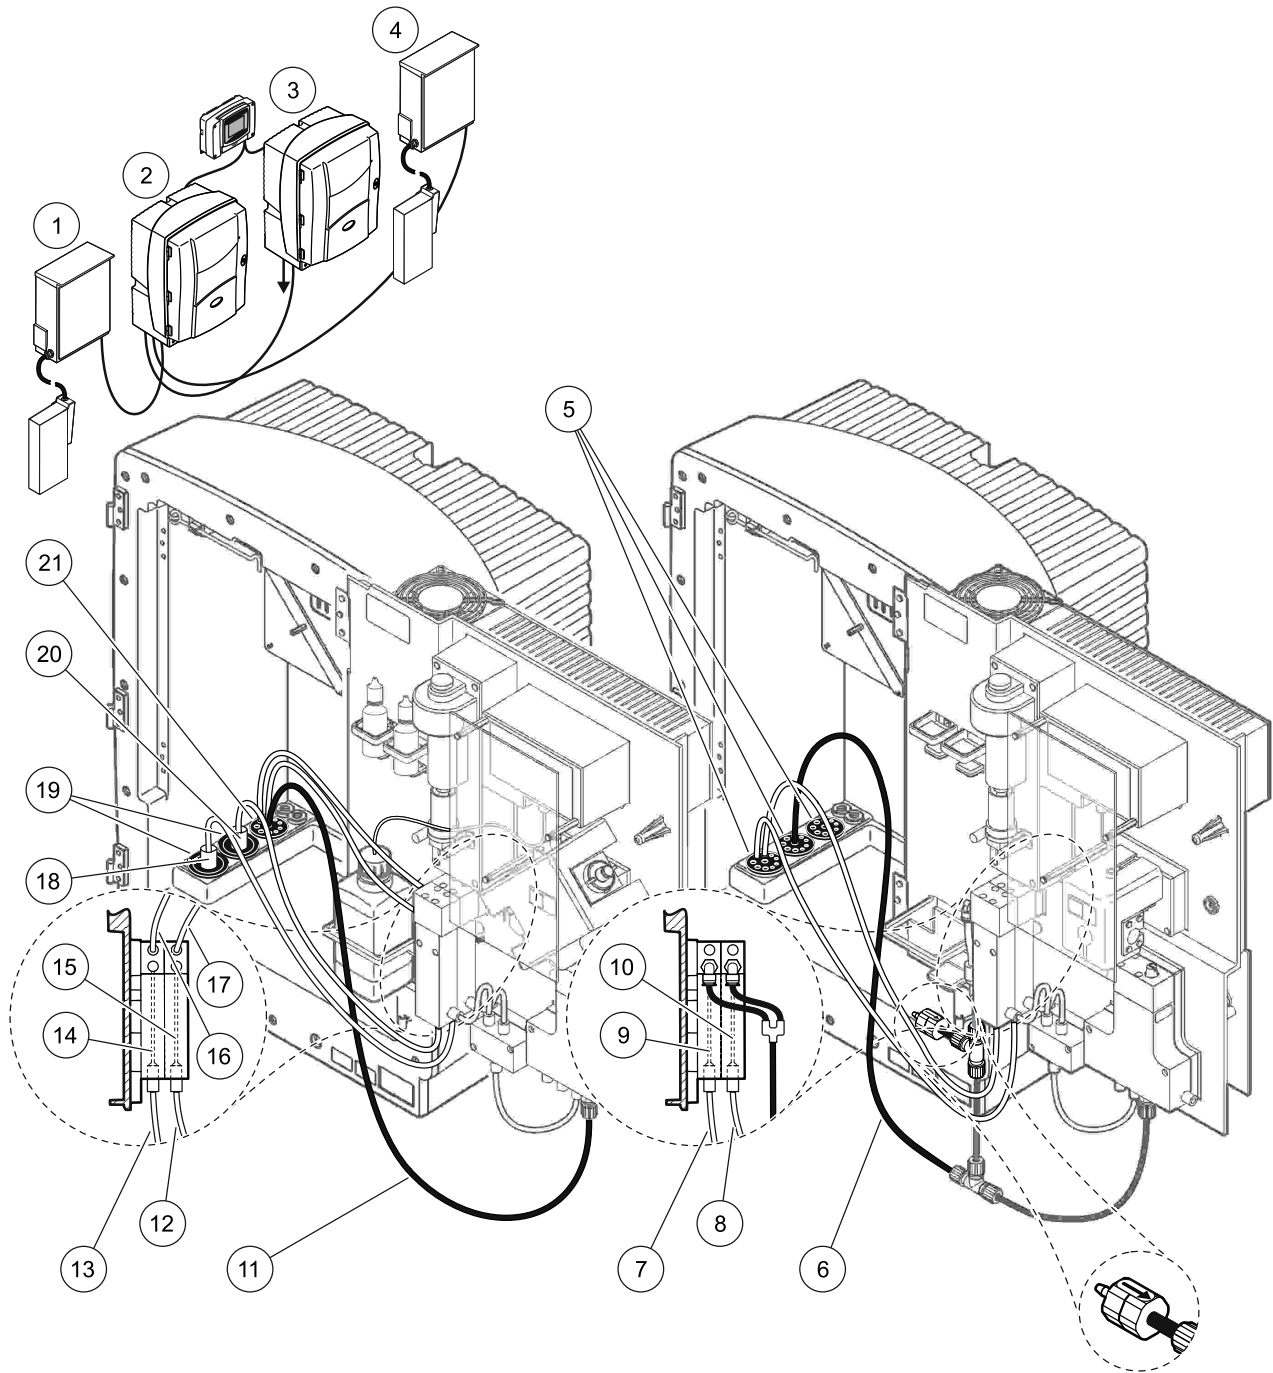

Figure 39 Option 9b setup
Refer to Figure 39 and the following instructions for Option 9b:
- a. Feed the heated hose from FILTRAX 1 through the analyzer (Figure 39, item 18). Use Seal Plug #1 to secure.
- b. Feed the heated hose from FILTRAX 2 through the analyzer (item 20). Use Seal Plug #1 to secure.
- f. Connect the sample line from FILTRAX 1 to the bottom inlet on Overflow Vessel 1 using the fittings (item 13).
- g. Connect the sample line from FILTRAX 2 to the bottom inlet on Overflow Vessel 2 using the fittings (item 12).